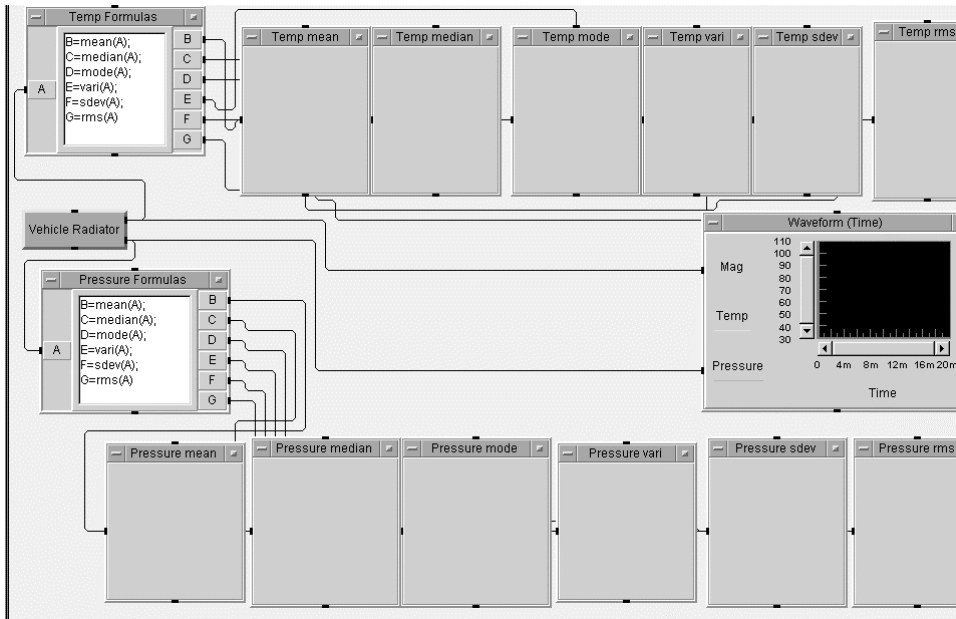

Figure 10.1. The Lab 10.1 program layout
6. Clone Temp sdev five times; change all Properties descriptions to agree with Figure 10.1.
12. Label these six displays as shown in Figure 10.1; connect them to their appropriate Pressure Formulas output pins.
13. Shrink Waveform (Time) to fit between the displays as shown in Figure 10.1.